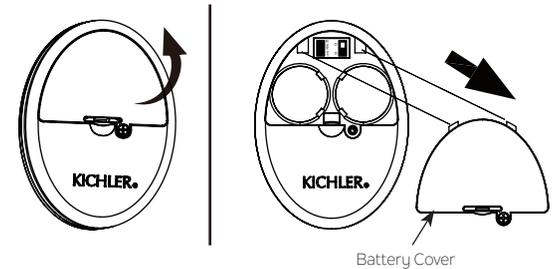

Fig. 26
Step 2. Remove the battery cover from the handset control by screwdriver. (Fig.26)